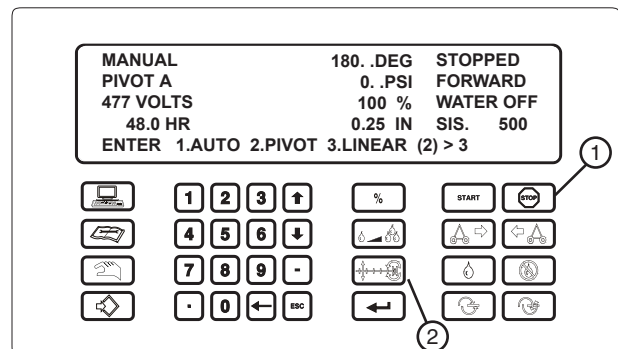

Figure 61-4 1. Stop Key 2. Pivot/Linear Key
- Press  to stop the machine at the end of the pivot zone. See figure 61-4.
- Press  and **3** to return the machine to the linear mode. See figure 61-4.